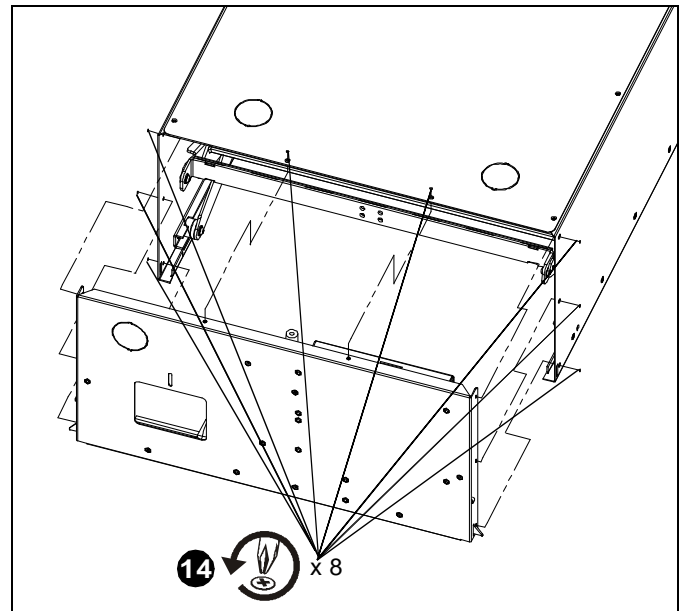

Figure 8
14. Remove three screws from each side of back wall and two from top of back wall (8 screws total), and detach back wall from SL220 assembly. (See Figure 8)